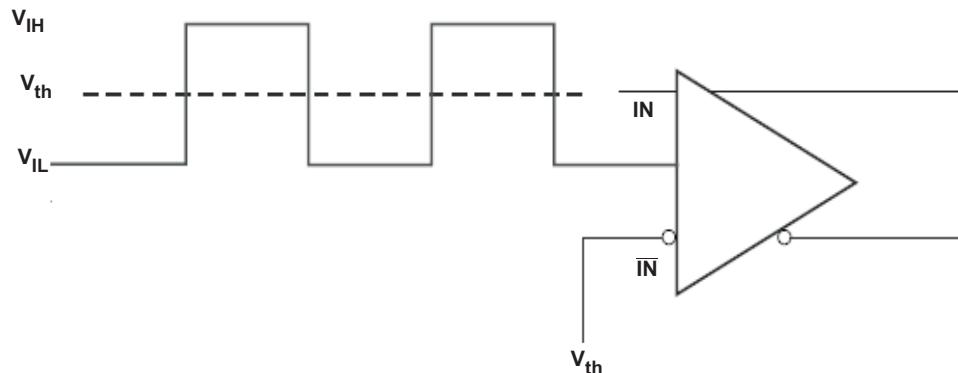

Figure 7. DC Coupled LVC MOS Input During Device Test
2.5V LVCMOS (see Figure 7) INPUT CHARACTERISTICS